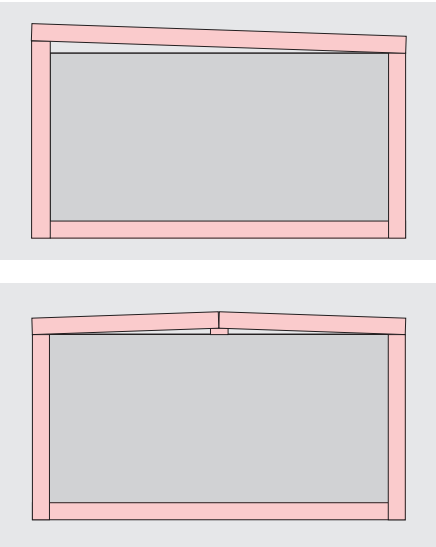

Figure 33: Sloped insulation fixing details
- Sloped insulation as shown in Figure 33 can be applied as follows: